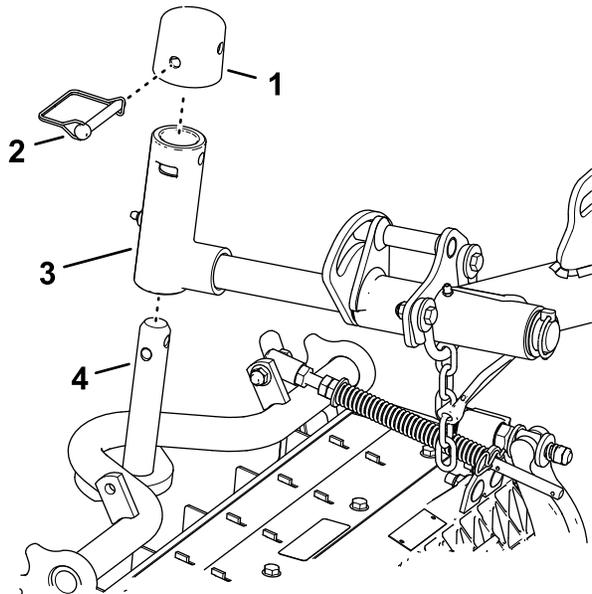

Figure 25
1. Slide a cutting unit under the lift arm (Figure 25).
Locking the Cutting-Unit Pivot for Cutting Grass on a Hill Side—Lock the cutting-unit pivots to prevent the cutting units from rotating downhill when cutting across the face of a hill. Use the hole in the lift-arm pivot shaft (Figure 25) to lock the cutting unit. Use the slot for a steering cutting unit.